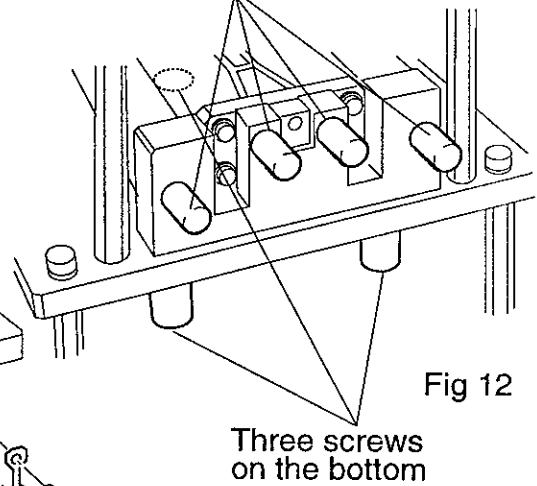

Fig 12
Step 11. Attach the force motor to the alignment fixture with 4 screws in the front and 3 on the bottom (Fig 12).